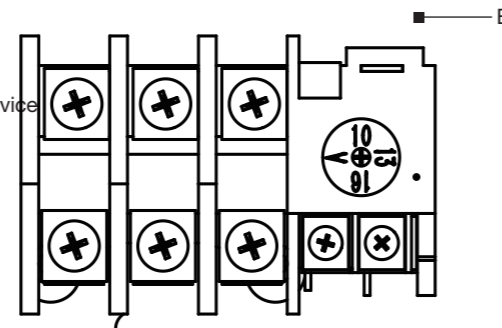

Fig.9
The compressor is equipped with an overload cut out (E) (Fig.9) which operates as a safety device to protect the motor.